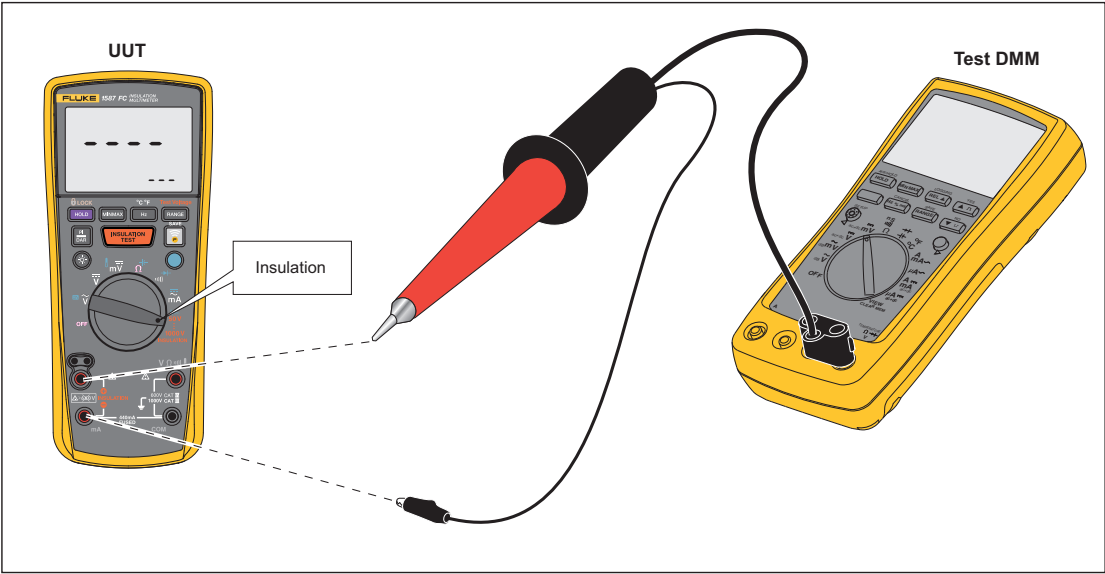

Figure 7. Source Voltage Accuracy Test
- 2. Connect the input of HV Probe to the INSULATION output terminals on the UUT as shown in Figure 7.